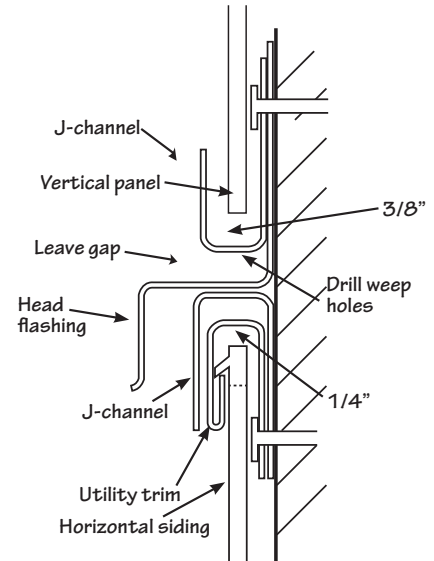

Figure 50.
- The top piece of J-channel must have minimum 3/16" (4.8mm) diameter weep holes drilled no more than 24" (610mm) apart to allow for water runoff, and the starter strip (J-channel) should not rest on head flashing because it will block weep holes. Leave a gap as shown (Fig. 50).